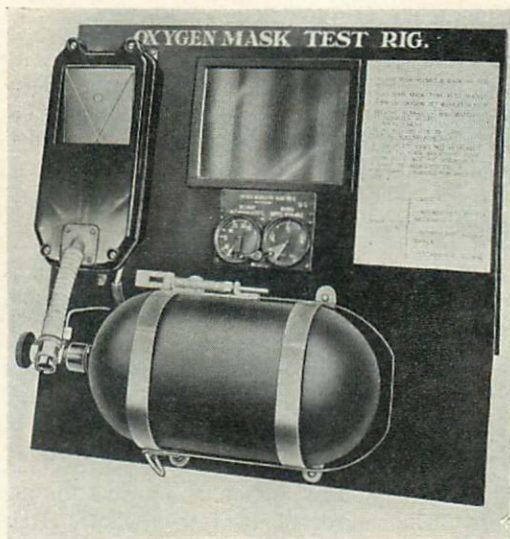

Fig. 6. Oxygen Mask Test Rig.
20. The oxygen test rig (Fig. 6) enables aircrew to check that their masks, as fitted, are sufficiently air-tight to operate an economizer. It also gives aircrew a better understanding of their oxygen system and its operation, and increases confidence in the equipment.